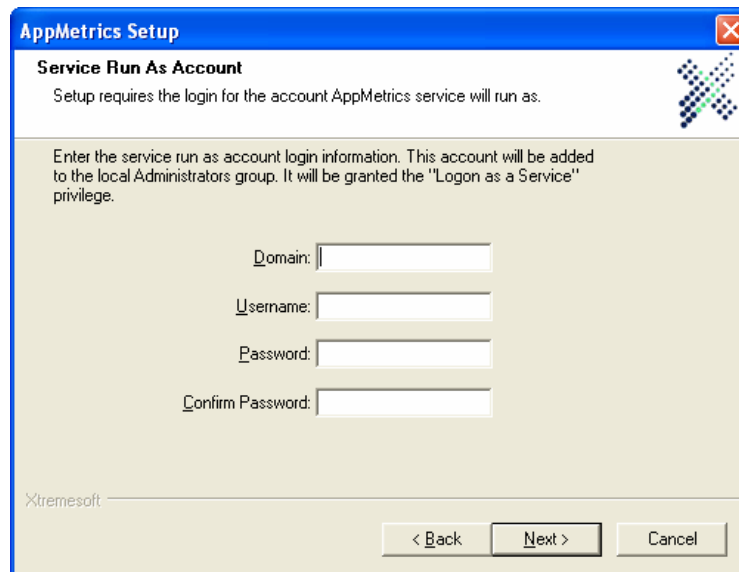

Figure 9
9. Specify the Windows user account for AppMetrics (account and password information should be provided by your Instructor - see Figure 9). In Windows NT the AppMetrics Service will run under the context of the Local System and the DCOM protocol will run under the context of the provided user account. In Windows 2000 both the AppMetrics Service as well as DCOM will run under the context of the provided user account.